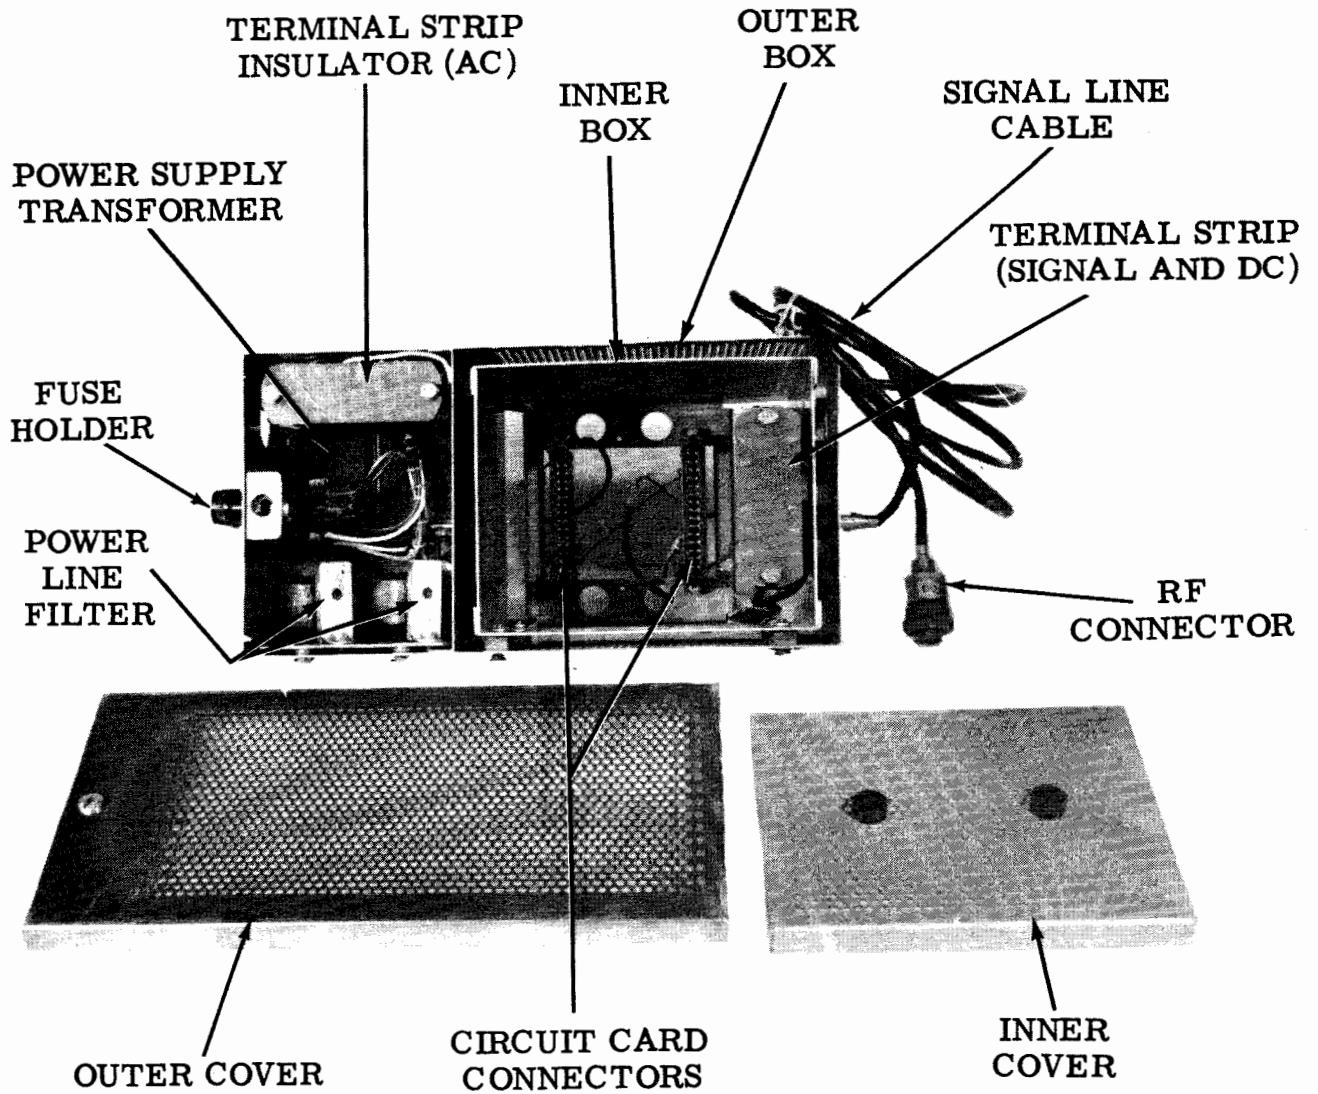

Figure 7 - Typical Parts of an ESA — Double Box Construction, Top View
4.01 Figures 7, 8, and 9 illustrate typical parts of the ESA. ESAs which accommodate LLK and SMD cards require double box construction. The inner box functions as an electrostatic shield and is electrically isolated from an outer box which acts as a magnetic shield. CMD cards do not require a double box construction. Single box construction is adequate and serves as a combined electrostatic-magnetic shield.